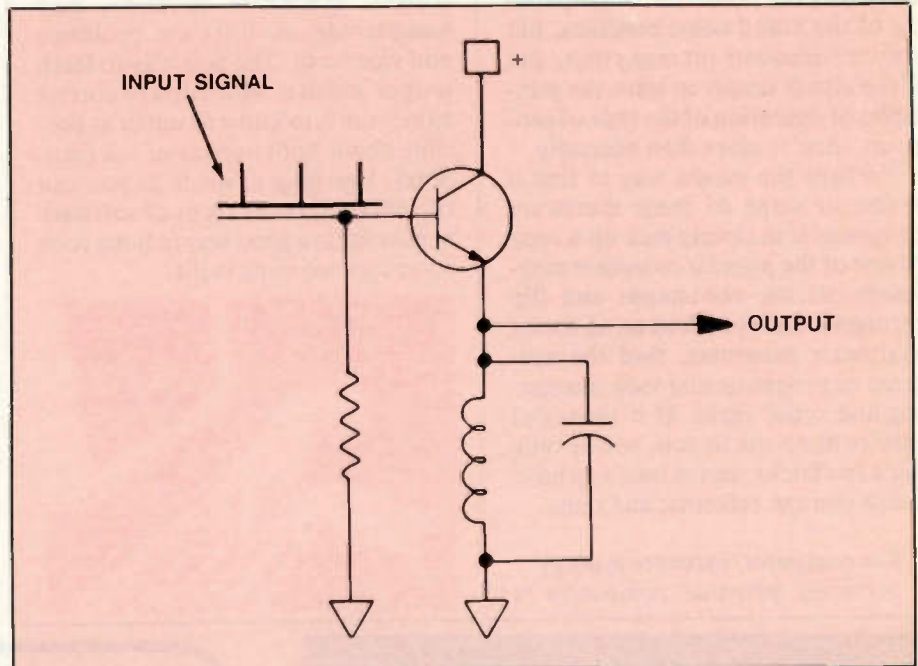

Figure 1.
1. Refer to the circuit in Figure 1. What is the output voltage waveform when the input signal is the short-duration pulse shown? _____.